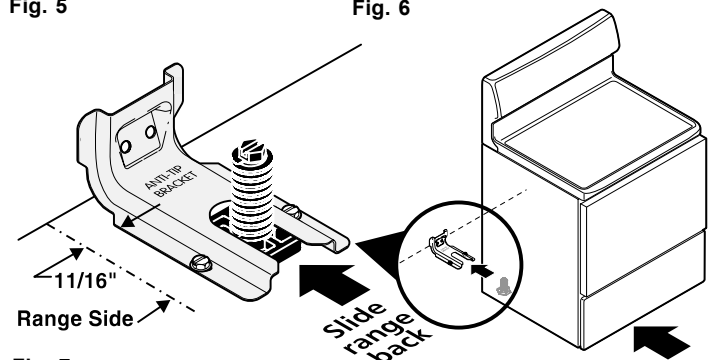

Fig. 7
**1c. Level and Position Range** - Level range by adjusting the (4) leveling legs with a wrench. NOTE: A minimum clearance of 1/8" is required between the bottom of the range and the leveling leg to allow room for the bracket. Use a spirit level to check your adjustments. Slide range back into position (See Fig. 7).